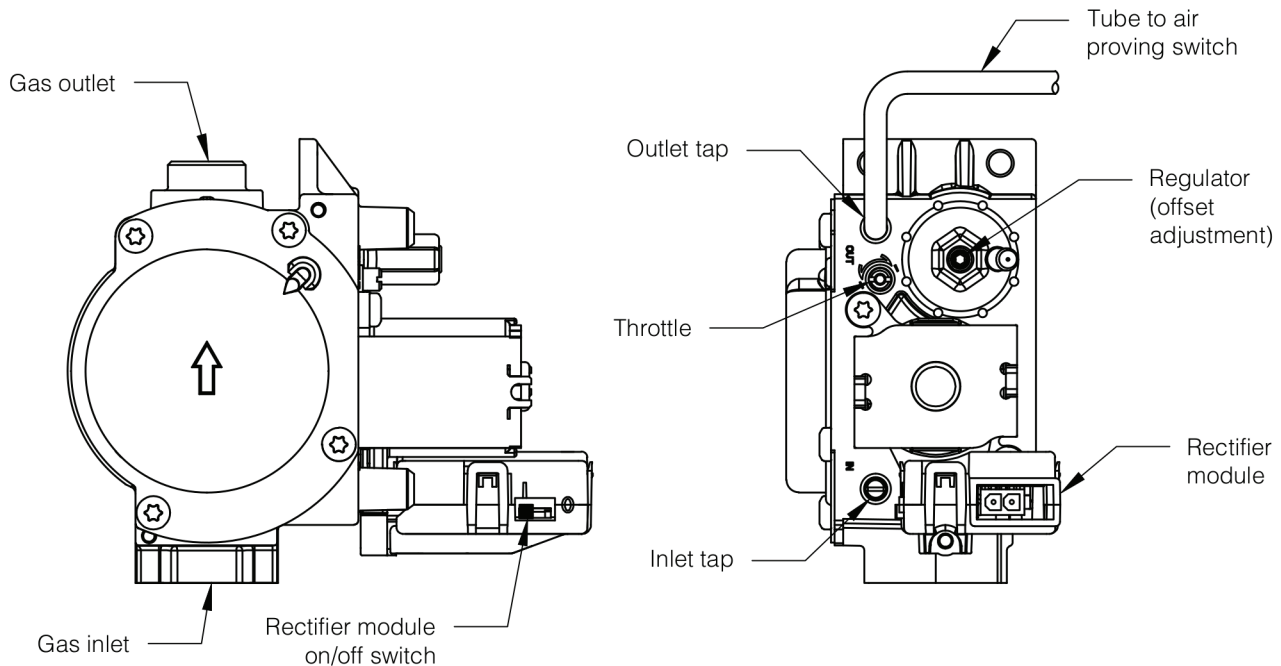

Figure 12.4: Gas Valve Detail
- a. With burner at high fire, adjust gas valve throttle (Fig 12.4) as needed to obtain CO₂ (or O₂) setting shown in Table 12.5A.
- b. With the burner at low fire, adjust gas valve offset regulator (Fig 12.4) as needed to obtain CO₂ (or O₂) setting shown in Table 12.5A.